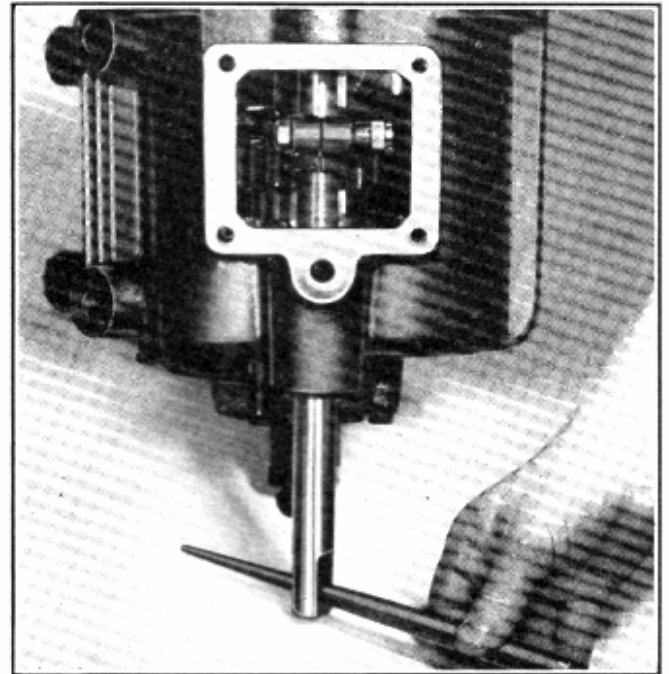

Fig. 15—High and Low Speed Shifter Shaft is Threaded into Shift Fork as Shown
6. Remove the cotter pin and loosen the clamp bolt in the gearshift fork (30). Turn the threaded shaft (31) out of the shifter fork (30) as shown in Fig. 15.